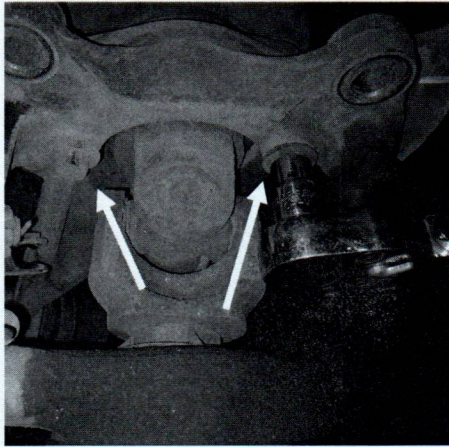

Figure 5. Unit Bearing/Hub Bolts on Back Side of Knuckle
6. Remove the wheel bearing bolts from the back side of the steering knuckle with a 13mm 12 point socket. It can be helpful to rotate the axle shafts to orient the u-joint so that you have access to the bolt heads. Figure 5 shows two of the three bolts on the back side of the knuckle.